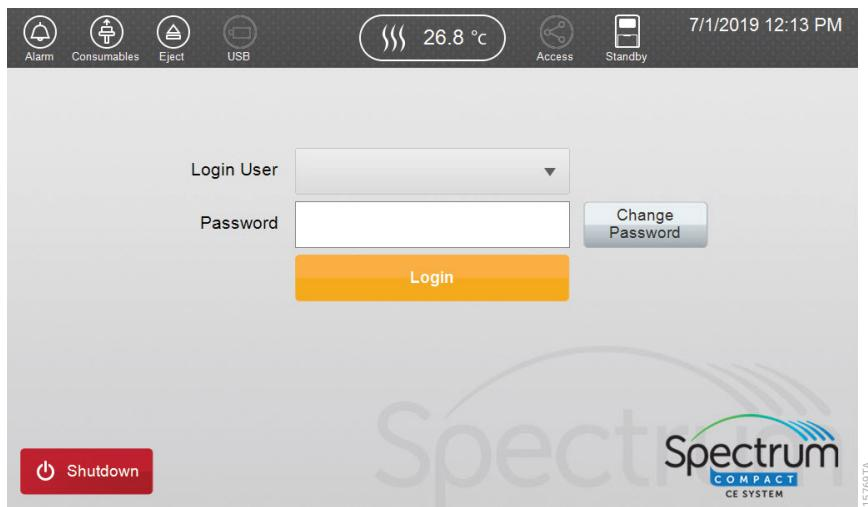

Figure 8. Spectrum Compact CE System Software Login screen.
5. Log in to the software by selecting the appropriate user name from the drop-down menu and entering the correct password (Figure 8).